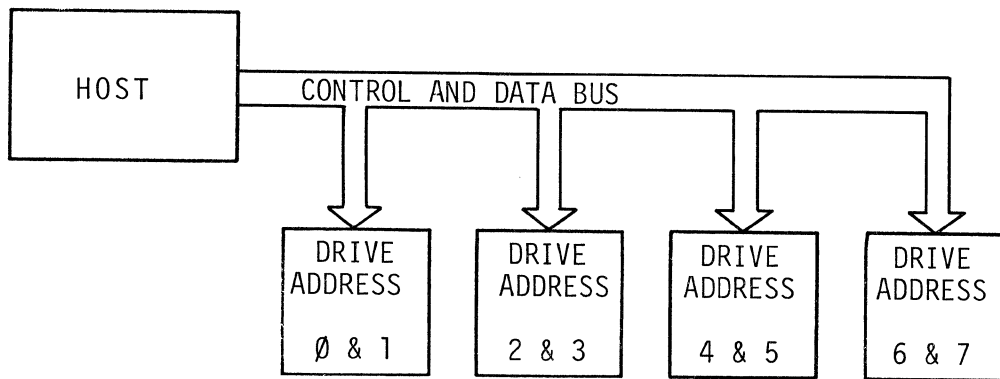

FIGURE 5-15: BINARY SELECT WITH ALTERNATE HEAD SELECT CONFIGURATION
The binary select option described in Paragraph 5.2.19 can also be used to allow four Series 700 double-sided FDDs to replace eight single-sided drives. In this configuration, which is shown in Figure 5-15, Switch S1-7 is closed (ON) and each double-sided drive will function as two single-sided drives.